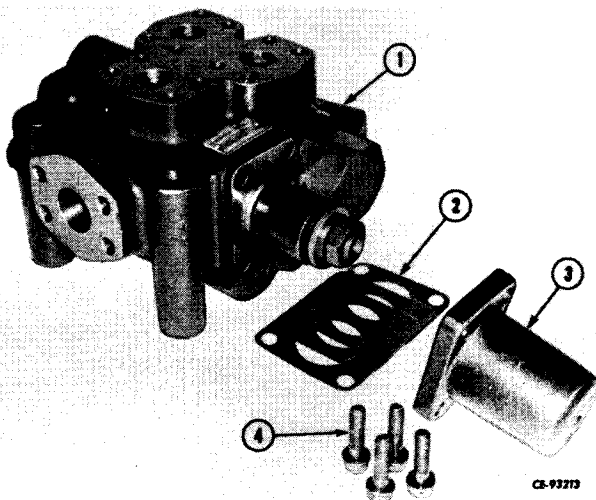

Figure 11-71
Remove the cap screws (4, Fig. 11-71) that secure the cap (3) to the valve (1). Remove the cap and shim pack (2).